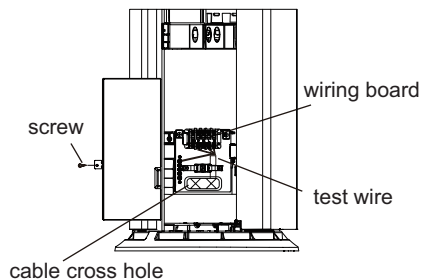

Fig.19
2. Take out the electric box cover, screw down the test wire of screw, take out the test wire from the cable cross hole. (As show in Fig.19)